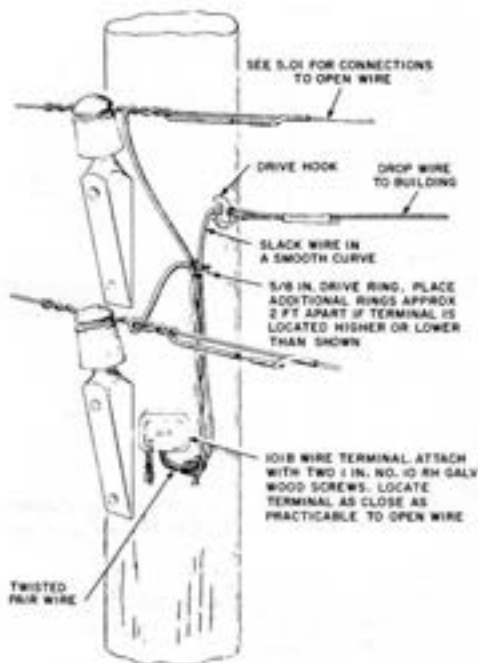

Fig. 5—Where Pole Brackets are Located on Same Side of Pole
- 4.14 The wiring arrangements on line poles equipped with wooden pole brackets are shown in Fig. 5.